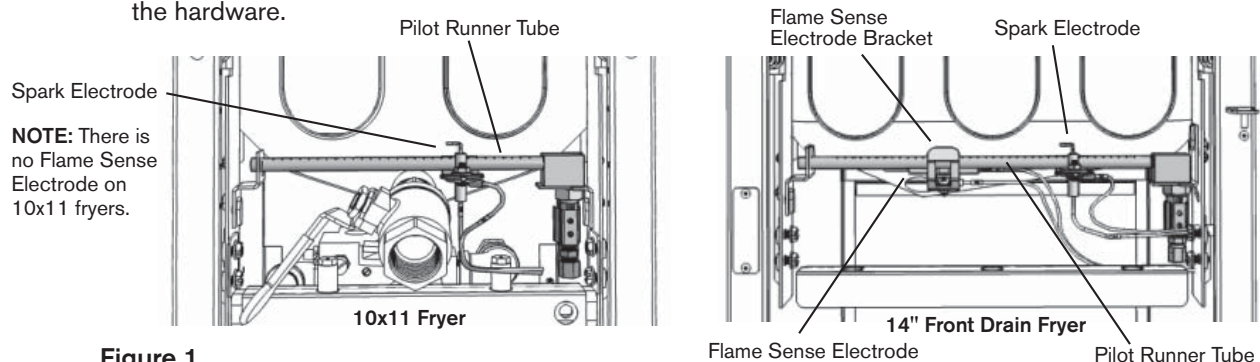

Figure 1
1. Install new pilot runner tube assembly in the same position as the original assembly. See Figure 1.